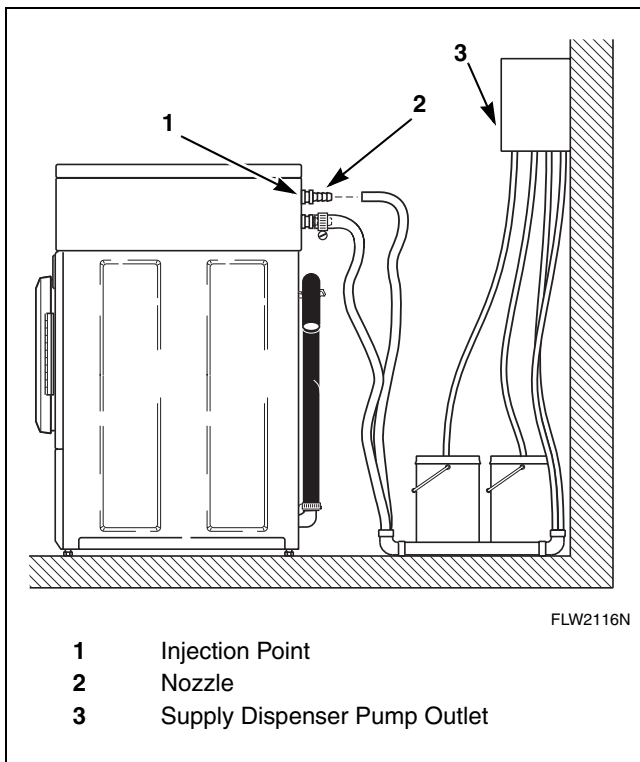

Figure 12
2. Attach nozzles to rear of machine. Connection point located on cabinet, above water mixing valve. Refer to *Figure 12*.
3. Connect supply hoses to nozzles and secure with hose clamps (obtain locally). Refer to *Figure 12*.